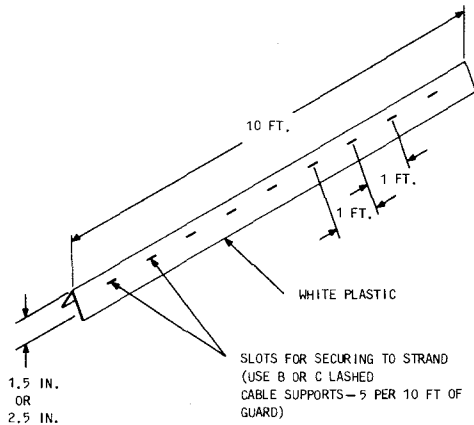

Fig. 1—D Cable Guard
2.01 The D and E cable guards are shown in Fig. 1 and 2, respectively.